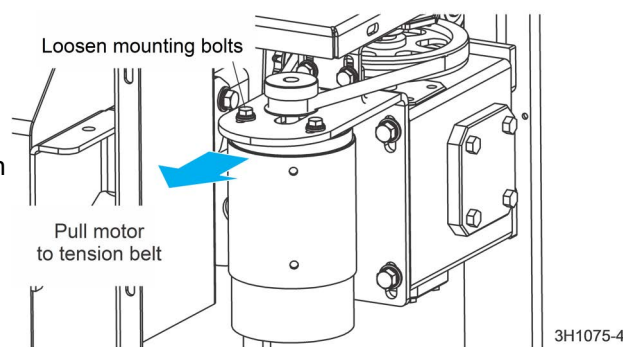

FIG. 5-8
2. Adjust the up/down motor belt as needed. **See Fig. 5-8.**